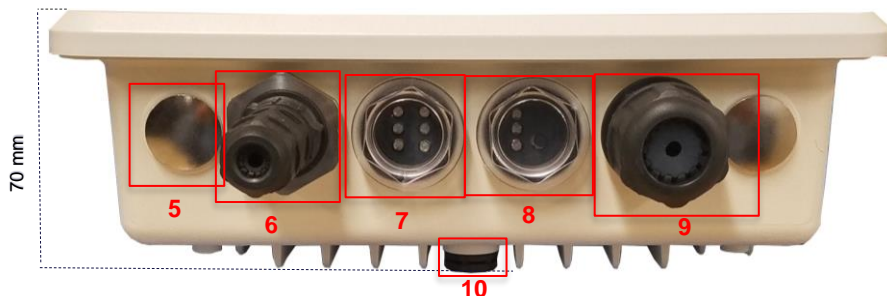

Figure 49: Side panel of the IP67 Rated Sentrius™ RG1xx Gateway (Current Generation)
- Mount the completed cables into the keyed power module slot and the Ethernet module slot #8 and #9 from Figure 49.